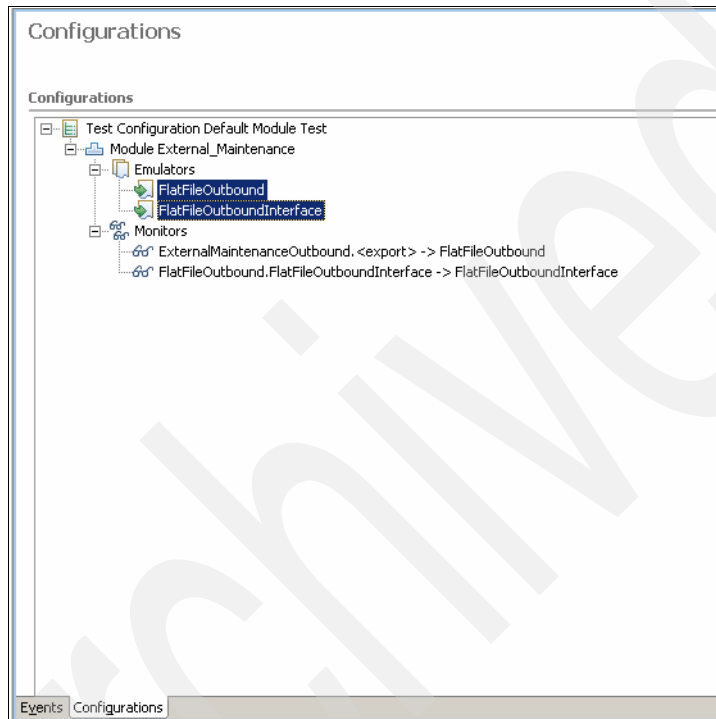

Figure 2-46 Emulators
5. This will open a new window with name ExternalContractorOutbound\_Test (Figure 2-46).